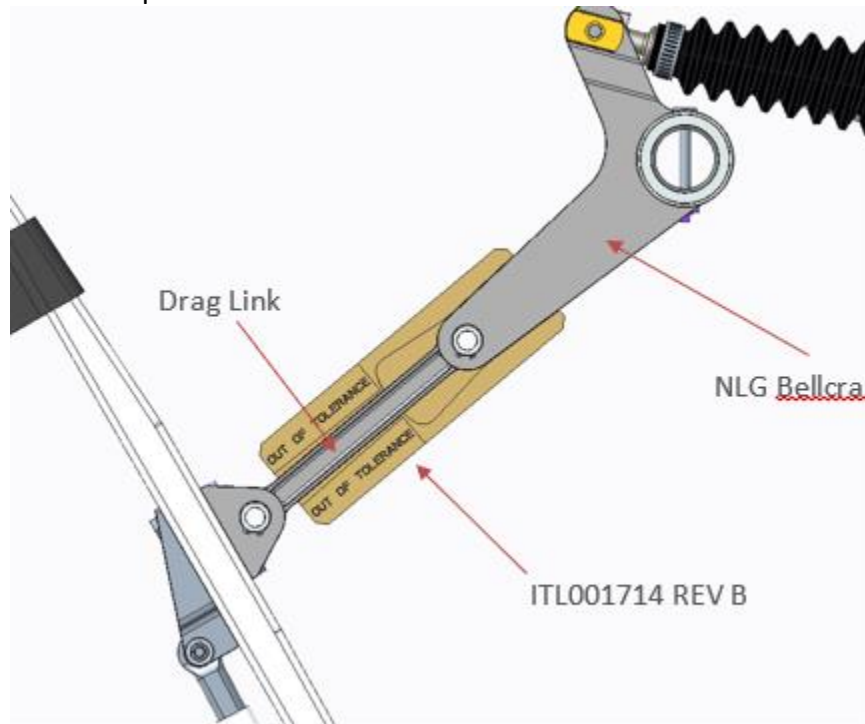

Figure 2 ITL001714 Rev B Indexed on NLG Bellcrank showing the drag link within the "in tolerance" range.
- b. If **not in tolerance (Fig. 2)**, the nose landing gear needs to be re-rigged within the “nominal range” using ITL001714 Rev B and rigging procedure section below.
- b. If the drag link indication is not “in tolerance” (Fig. 2), and the nose landing gear has not been re-rigged in step 1, rig the NLG actuator to the “nominal range” using ICON Tool No. ITL001714 Rev B by following the procedure in the ICON A5 Maintenance Manual (ICA000833, section 100391 or 100392) and repeat steps 2-8 of this section 24 additional times. Reinstall the 15A MLG fuse.
- a. If a 0.163-inch rigging pin **can be inserted** into the NLG rigging hole (figure 2), then proceed to step 2 of this section.